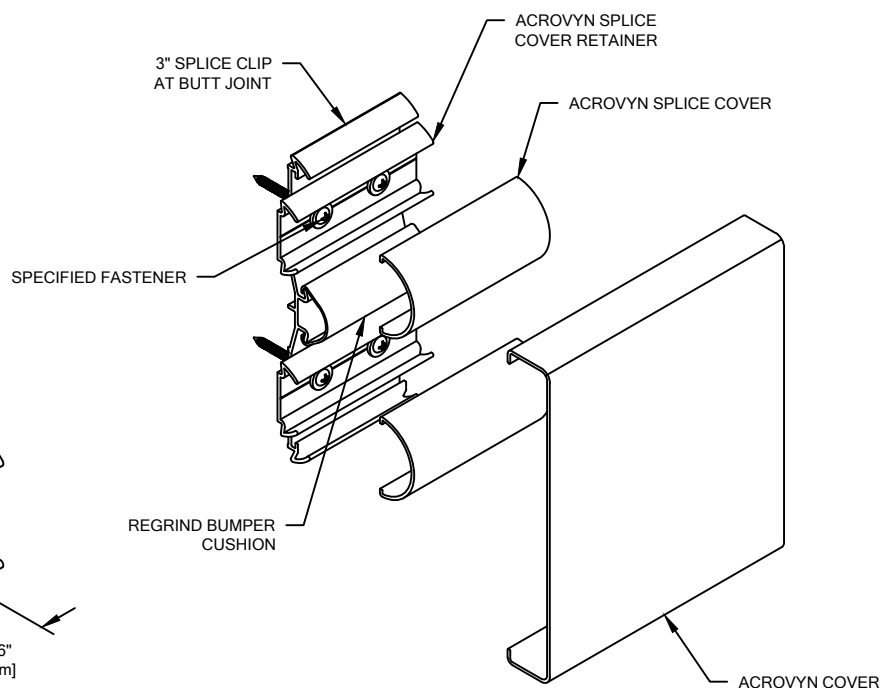

FIGURE 2.
5. FASTEN CLIPS TO WALL USING THE APPROPRIATE FASTENERS. 1 1/2\" [38.1mm] CLIPS ARE TO BE INSTALLED AT 16\" [406.4mm] O.C. AND 3 3/16\" [81.0mm] CLIPS ARE TO BE INSTALLED AT BUTT JOINTS WITH THE ACROVYN SPLICE COVER RETAINER ATTACHED TO THE FACE. USE A LEVEL TO INSURE THAT THE CLIPS AND SPLICES ARE INSTALLED PLUMB. (SEE FIGURE 2)